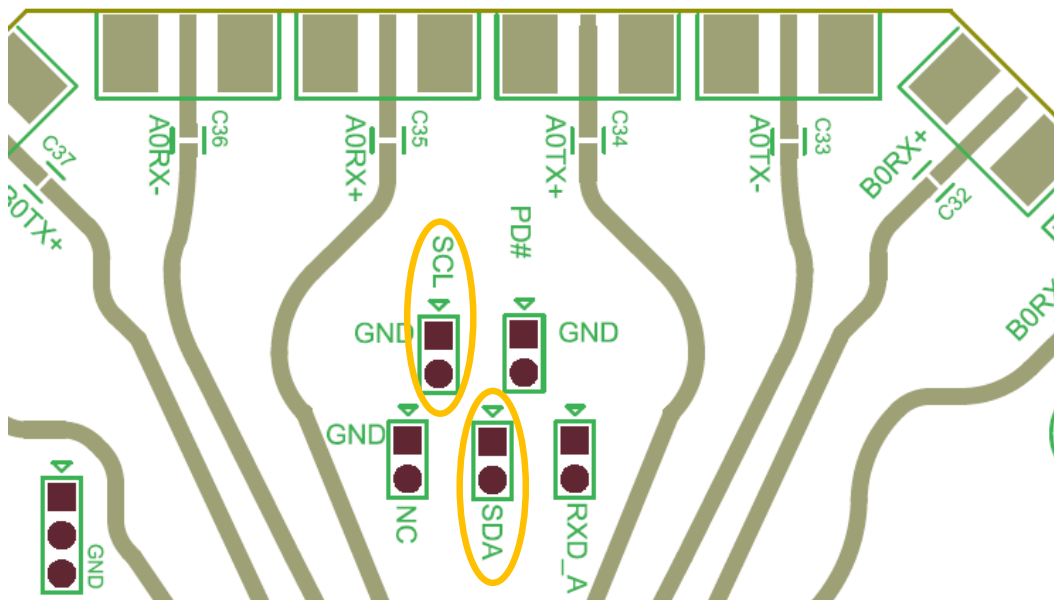

Figure5. SCL and SDA pin Header Location
- For I2C inputs, SCL and SDA pin are tolerant with **+3.3V power**. Figure5 is SCL and SDA pins location on EVB.